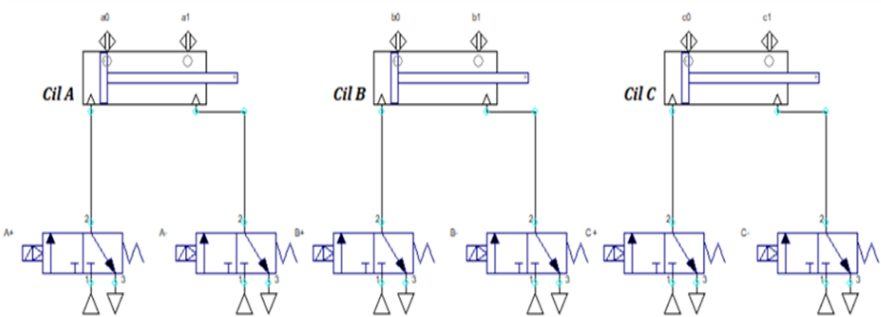

Fig 2
- 3. Step 3: Connect the pneumatic valves following Fig. 2;